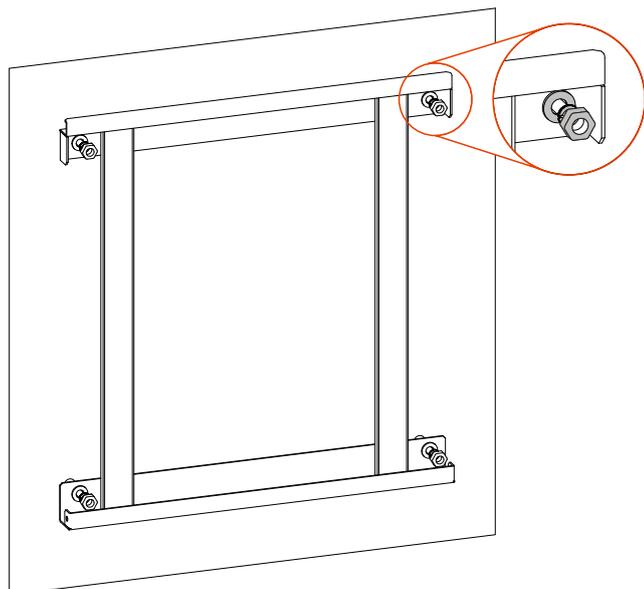

Figure3-6 Fix the installation holder on the wall
Step 4 As shown in Figure3-6, put the installation holder in the prepared expansion bolts with the flat washer, spring washer and nut and fasten nuts clockwise by wrench to fix the installation holder on the wall.